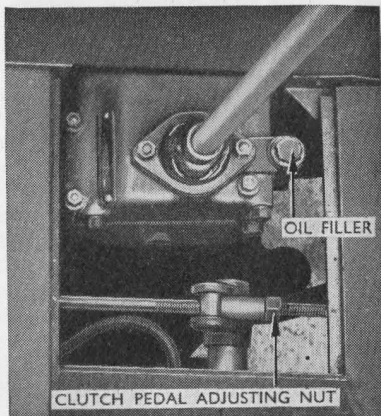

Fig. 26. Access to Change Speed Box and Clutch Pedal Adjuster.
Joint between top and bottom (Fig. 26).
- (c) Change speed box (Fig. 26).
| (iii) Change speed box .. | Should not be more than half full (see page 5). Access to plug by lifting floor trap in driver's cab. (Fig. 26). |